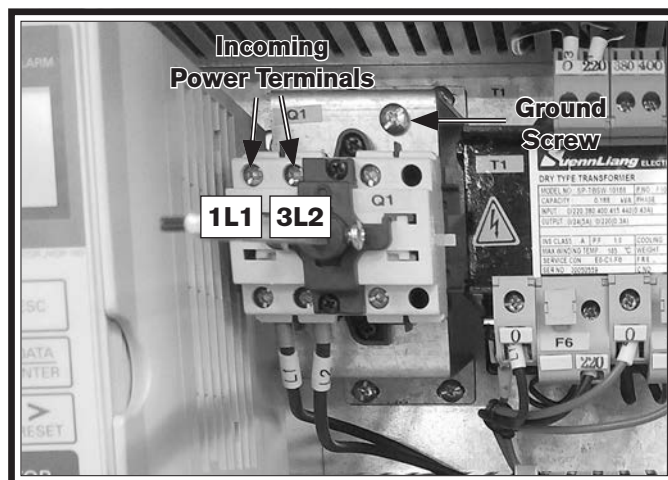

Figure 5. Incoming ground and power wire terminals.
During next step, make sure incoming ground wire is connected to grounding screw to ensure machine will be properly grounded (see "Ground Screw" in Figure 5). An ungrounded or improperly grounded machine can cause electrocution if live electrical wires make contact with frame or other parts touched by operator.
4. Connect ground wire to grounding screw, then connect incoming power wires to top of "1L1" and "3L2" terminals shown in **Figure 5**.